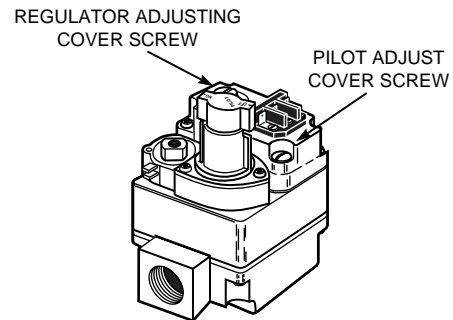

Figure 7. Pressure regulator adjustment
2. Remove "Reg. Adj." cover screw (see fig. 7).
4. Depress gas control knob slightly and turn clockwise to **OFF** (see fig. 7). If knob is in **ON**, turn clockwise to **PILOT**, then depress knob slightly and turn clockwise to **OFF**.
5. Wait fifteen (15) minutes to clear out any gas. If you then smell gas, **STOP!** Follow **B** in the precautionary information above. If you don't smell gas, go to next step.
9. Depress control knob all the way and hold in. **Immediately** light the pilot with a match. Continue to hold the control knob down for about one (1) minute after the pilot is lit. Release knob and it will pop back up. Pilot should remain lit. If it goes out, repeat steps 4, 5, 8, and 9.